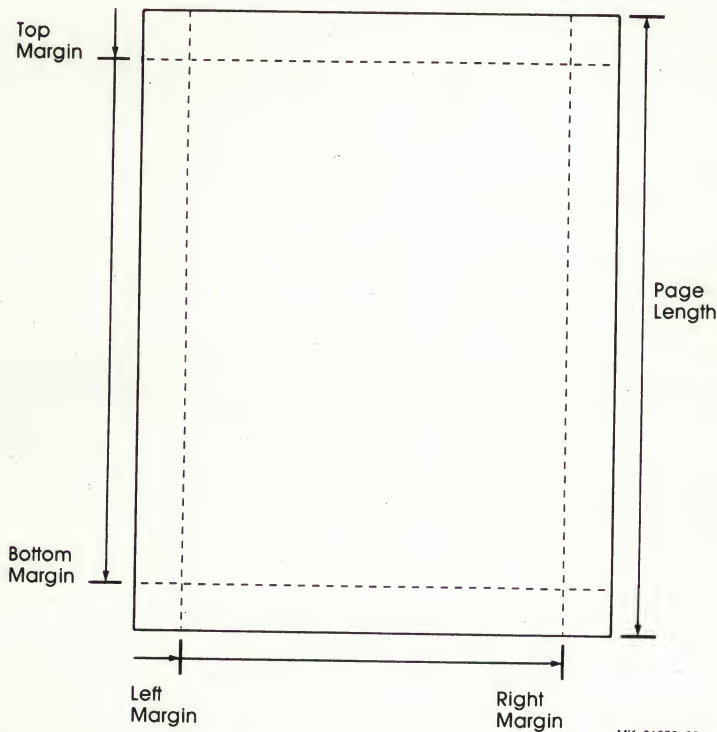

Figure 13 Page Layout for PRSETUP
- Characters per inch (CP)—The number of characters per horizontal inch of text.
- Left margin position (LM)—The number of character spaces from the left edge of the paper to the location of the first character in a line of text. (See Figure 13.)
- Right margin position (RM)—The number of character spaces from the left edge of the paper to the location of the last possible character position in a line of text. (See Figure 13.)
- Right margin action: (MA)—Tells the printer what to do if the lines of text in the file you want to print are longer than the length of the line of text you established when you set the left and right margin positions. If you select WRAP, the printer prints the remainder of the text on the following line. If you select TRUNCATE, the printer ignores the remainder of the line.
- **Print Density (PD)**—Tells an LA50 or LA100 printer what print quality to use. In normal or draft mode, these printers work rapidly and produce draft-quality output. In enhanced mode (on the LA50) or letter mode (the medium and high settings on the LA100) the output is higher resolution with more fully formed characters.
- **Lines per inch (LP)**—The number of lines of text per vertical inch of paper.
- **Lines per page (PL)**—The number of lines of text on a page of paper.
- **Top margin (TM)**—The number of lines the printer should advance from the top of the page before printing the first line of text. (See Figure 13.)
- **Bottom margin (BM)**—The number of lines from the top of the page to the last line of printed text on the page. (See Figure 13.)